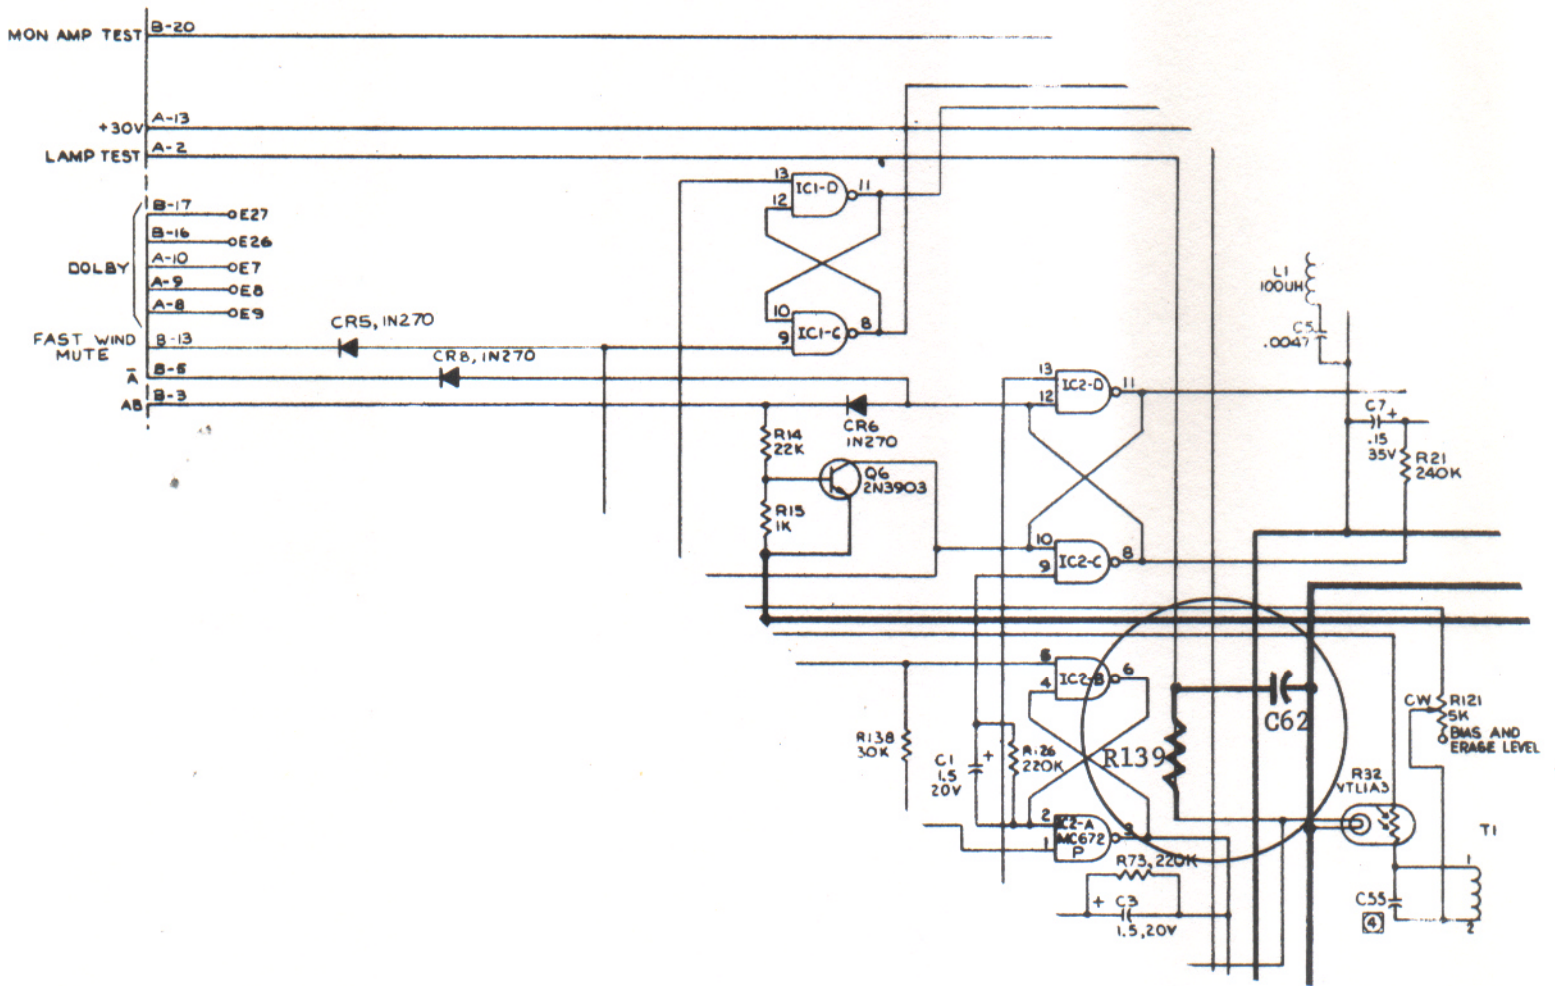

FIGURE 3
5. Change Instruction Manual schematics (see figure 3) and parts list to reflect C-62 and R-139.